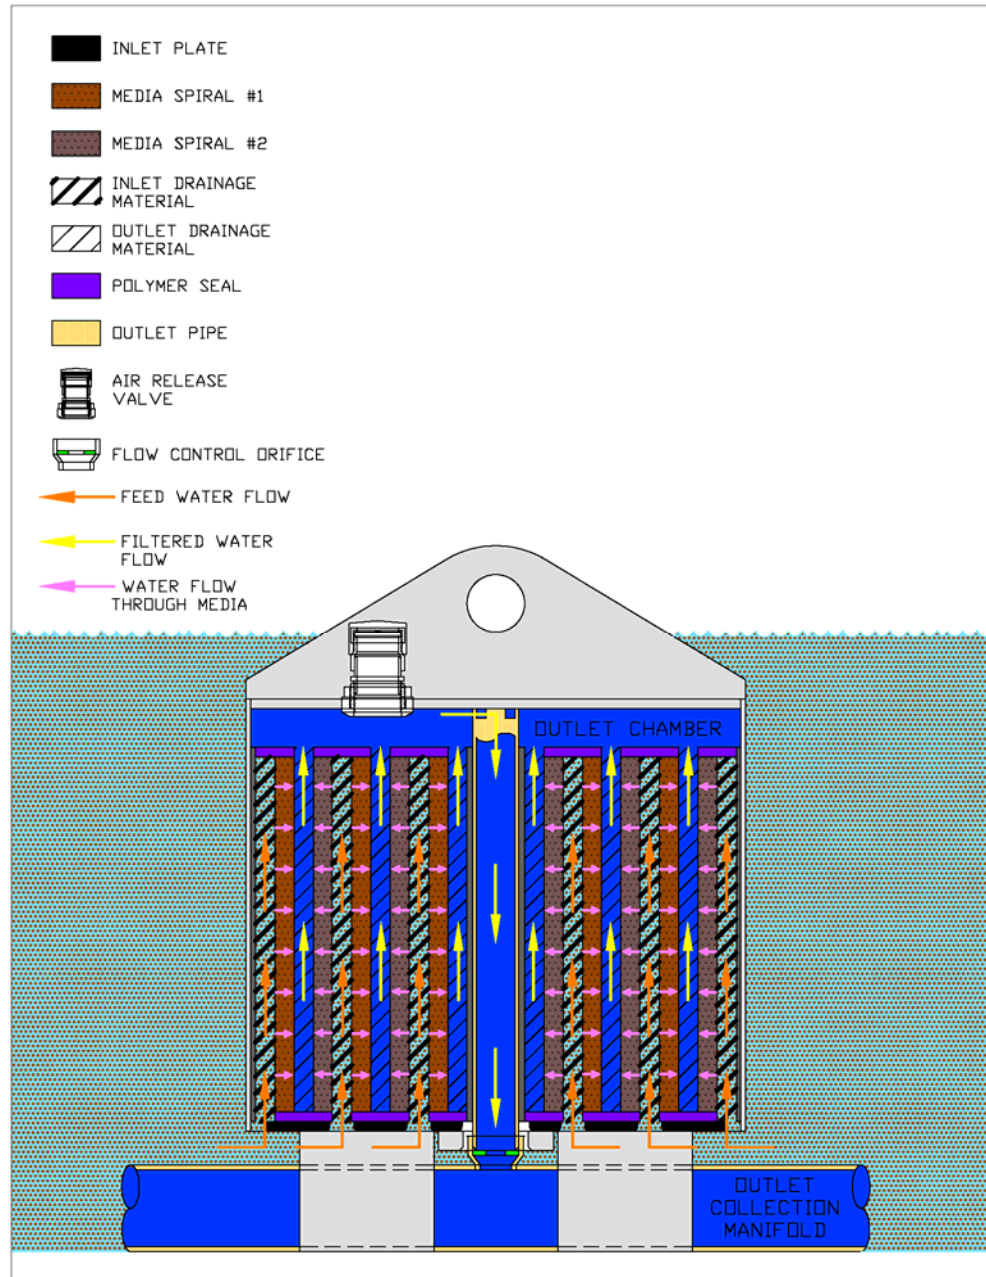

Figure A-2: Normal filter operation
B. Filtration: As water enters the continuous inlet drainage spiral, air is exhausted. Water then flows horizontally through the engineered media. Next it flows to the outlet drainage spiral which is also one continuous piece material. Filtered water then flows vertically to the outlet chamber located at the top of the filter media inside of the cartridge. Finally, filtered water flows in to the center outlet drain and leaves the system via the outlet manifold below the inlet plate. (Figure A-2)